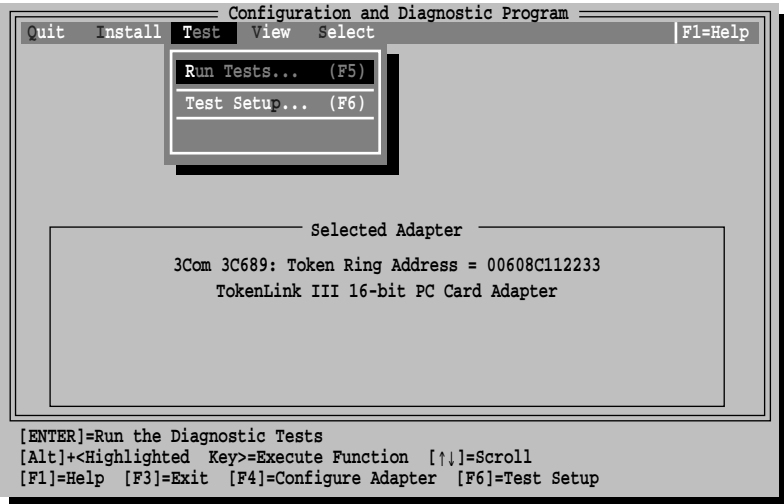

Figure 6-3 Tests Menu
Figure 6-3 shows the subsequent screen, indicating the installed adapter and its token ring address.
- 3 From the Test pull-down menu, select **Run Tests**, as shown in Figure 6-3.